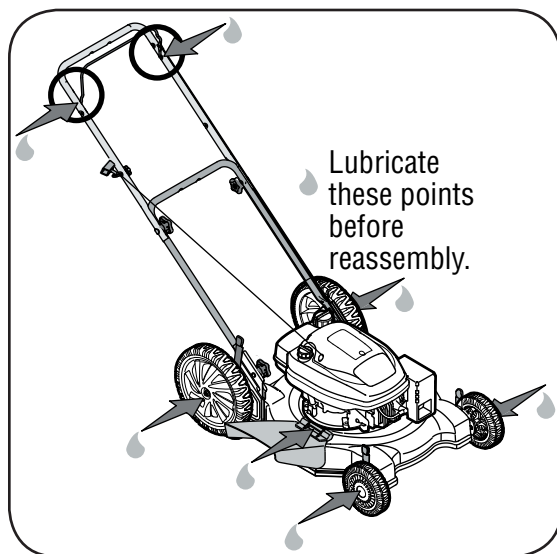

Figure 3
1. Lubricate pivot points on the blade control at least once a season with light oil. The blade control must operate freely in both directions. See Figure 3.
2. Lubricate the wheels at least once a season with light oil (or motor oil). If wheels are removed for any reason, lubricate surface of the axle bolt and inner surface of the wheel with light oil. See Figure 3.
3. Lubricate the torsion spring and pivot point on the chute deflector periodically with light oil to prevent rust. See Figure 3.